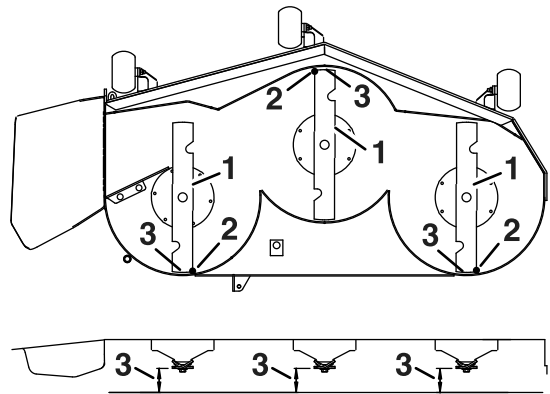

Figure 73
3. Carefully rotate the blades so they are facing front to rear (Figure 73).
4. Measure from the tip of the front blade to the flat surface and the tip of the rear blade to the flat surface (Figure 73).